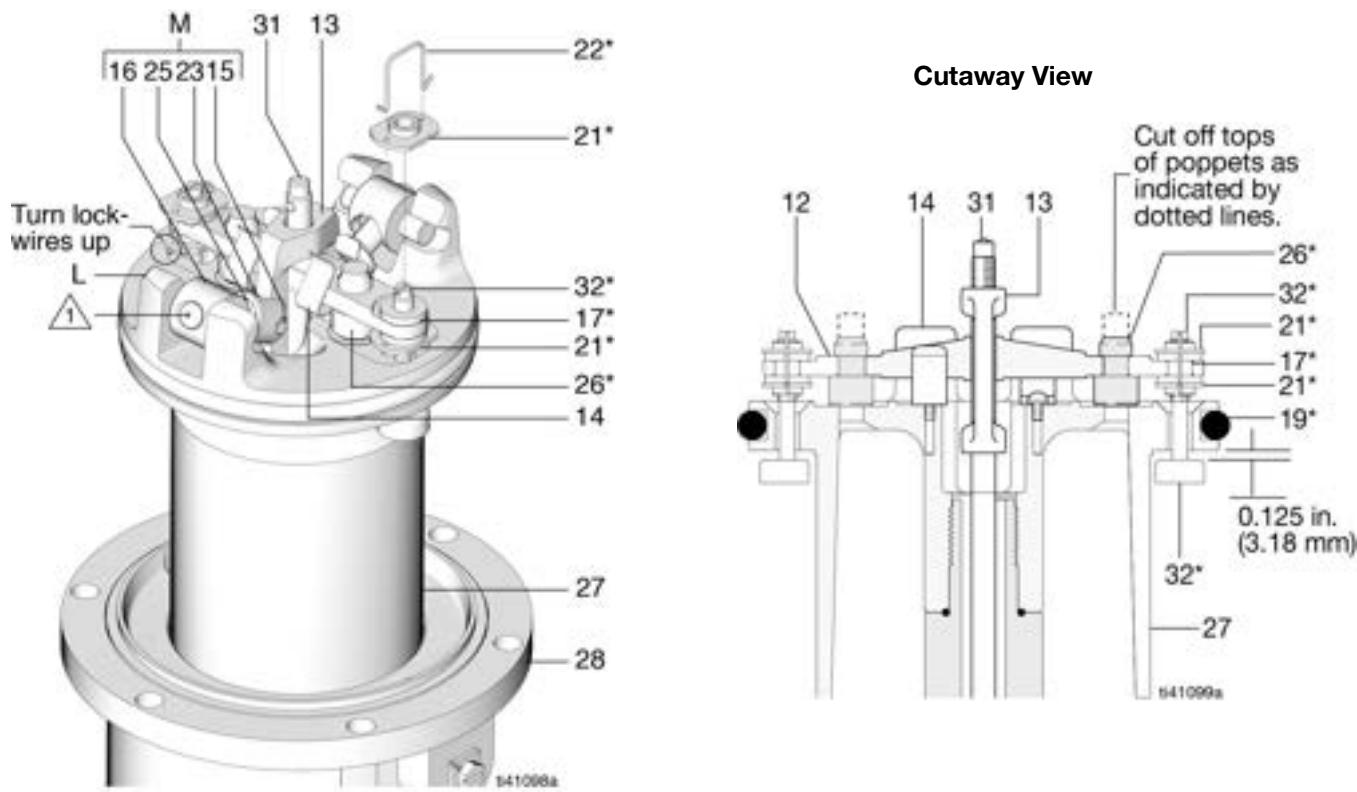

FIG. 4 Air Motor and Throat
To reduce the risk of pinching or amputation of fingers, keep fingers clear of the toggle assemblies when snapping the toggles (M in FIG. 4) up or down.
12. Using a screwdriver, push down on the trip rod yoke (13), and snap the toggles down (FIG. 4).
13. For this step, while prying with the screwdriver with one hand, cover the toggle assemblies with the other hand to catch the spring-loaded toggle assemblies as they snap out of the lugs. Place the tip of the screwdriver into the piston between the piston lugs (L) below the pivot pins (16) on the toggles, pry up using the screwdriver handle to compress the springs on the toggle assembly (M) up and away from the piston lugs, and remove the parts (FIG. 4).
14. Straighten the lock wires (22*) and remove them from the valve nuts (21*). Screw the top nuts off. Remove the trip rod yoke (13), actuator (12), and trip rod (31). Unscrew the bottom nuts (21*) and remove the poppets. Make sure the valve bar spring clips (14) are not worn or damaged, and that they properly guide the actuator (12).
15. Remove the exhaust valve poppets (26) by cutting them with a side cutter, then pull them out of the actuator (12).
1. Place the piston rod (29) flats in the vise with the air motor facing up.
2. Pull the exhaust valve poppets (26*) into the valve actuator (12), and clip off the top parts of the poppets (shown with dotted lines in the Cutaway View in FIG. 4).
3. Install the grommets (17*) in the actuator (12), place the inlet valve poppets (32*) in the piston, and thread the bottom valve nuts (21*) onto the inlet valve poppets until there are a few threads left before the threads run out.
4. Grease heavily and place the trip rod (31) in the piston, place the actuator (12) in the yoke (13), and place the well-greased actuator/yoke assembly in the piston, with the trip rod going through the center holes of the actuator and yoke and the inlet valve poppets (32*) going through the grommets (17*).
6. Install the toggle pins (15) in the yoke (13), place the toggle arm (23) ends of the toggle assembly (M) onto the toggle pins, and snap the pivot pin (16) ends of the toggle assembly into the lugs (L).
7. Measuring with the gauge (Part No. 171818), create 0.125 in. (3.18 mm) of clearance between the inlet valve poppets (32*) and the piston seat when the inlet valve is open. See the Cutaway View in FIG. 4.